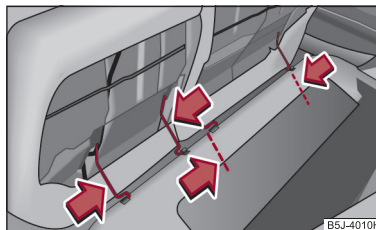

Fig. 55 Removing seat cushions
- Press the wire clamps in the direction of the arrow ⇒ fig. 55 and remove the seat cushion from its holder.